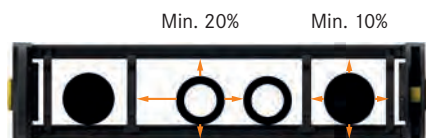

Fig. 1
**1)** For electric cables, a clearance of at least 10% between the cable and the outer frame must be guaranteed; for pneumatic lines the clearance should be 15%, while for hydraulic hoses the clearance should be at least 20% (**Fig. 1**)